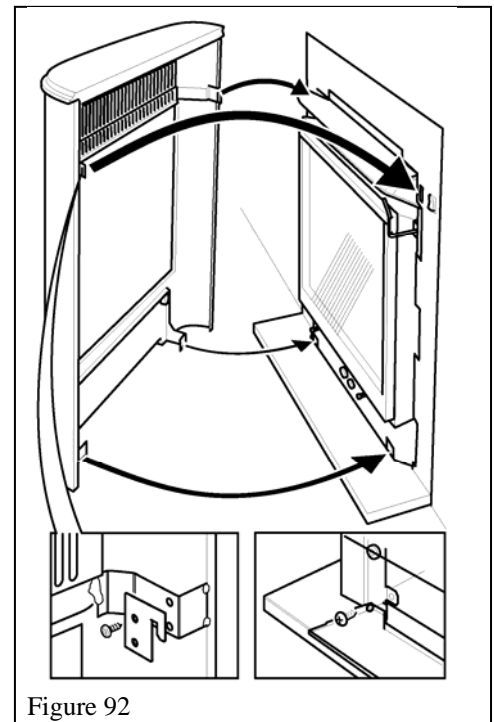

Figure 92
3. Fit the two top hanging hooks using four $\frac{3}{8}$ " thread cutting screws. Hang the front unit by the hooks at the top corners. See figure 92.
4. Secure the bottom of the front with two thread cutting screws provided. Screw into the two raised tabs. See figure 92.